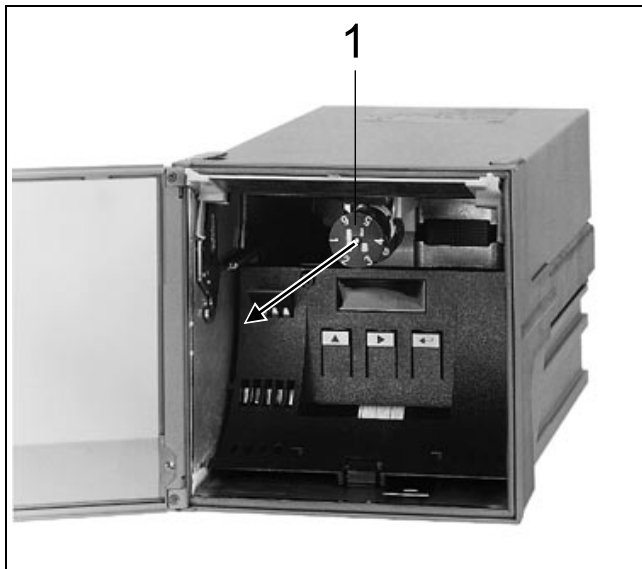

Fig. 9 Exchanging the ink head 1
6. Insert ink head 1 as shown in Fig. 9.